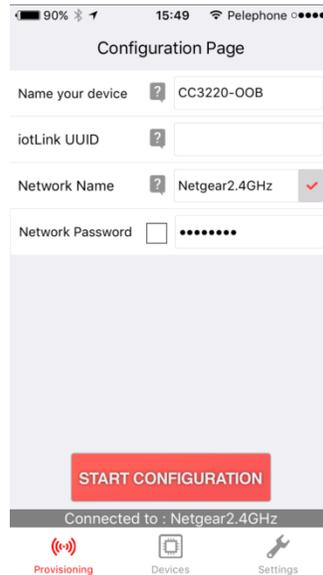

Figure 12. Wi-Fi Starter Provisioning Tab
- Navigate to the provisioning tab to configure the AP credentials. Click on the START CONFIGURATION button to start the process (see Figure 12).